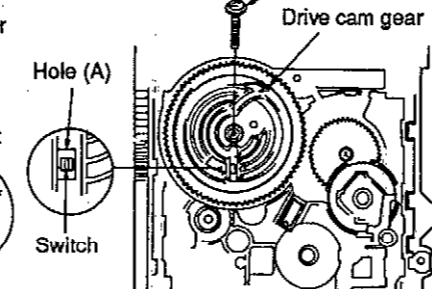

Fig.4
7. Align the hole (A) of the drive cam gear with the switch, and then insert the drive cam gear. (See Fig.4.)
8. Secure the drive cam gear with a screw. (See Fig.4.)